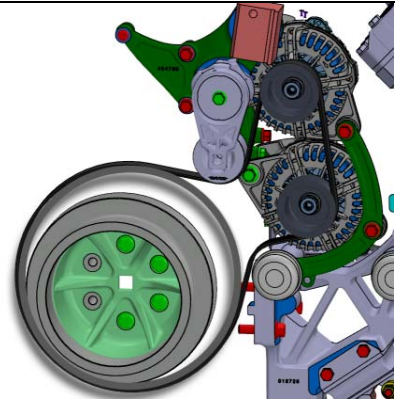

FIGURE 30
41. Reinstall the alternator belt. To do so, rotate the automatic tensioner using a $\frac{1}{2}$ square drive breaker bar and install the belt as shown on FIGURE 30.